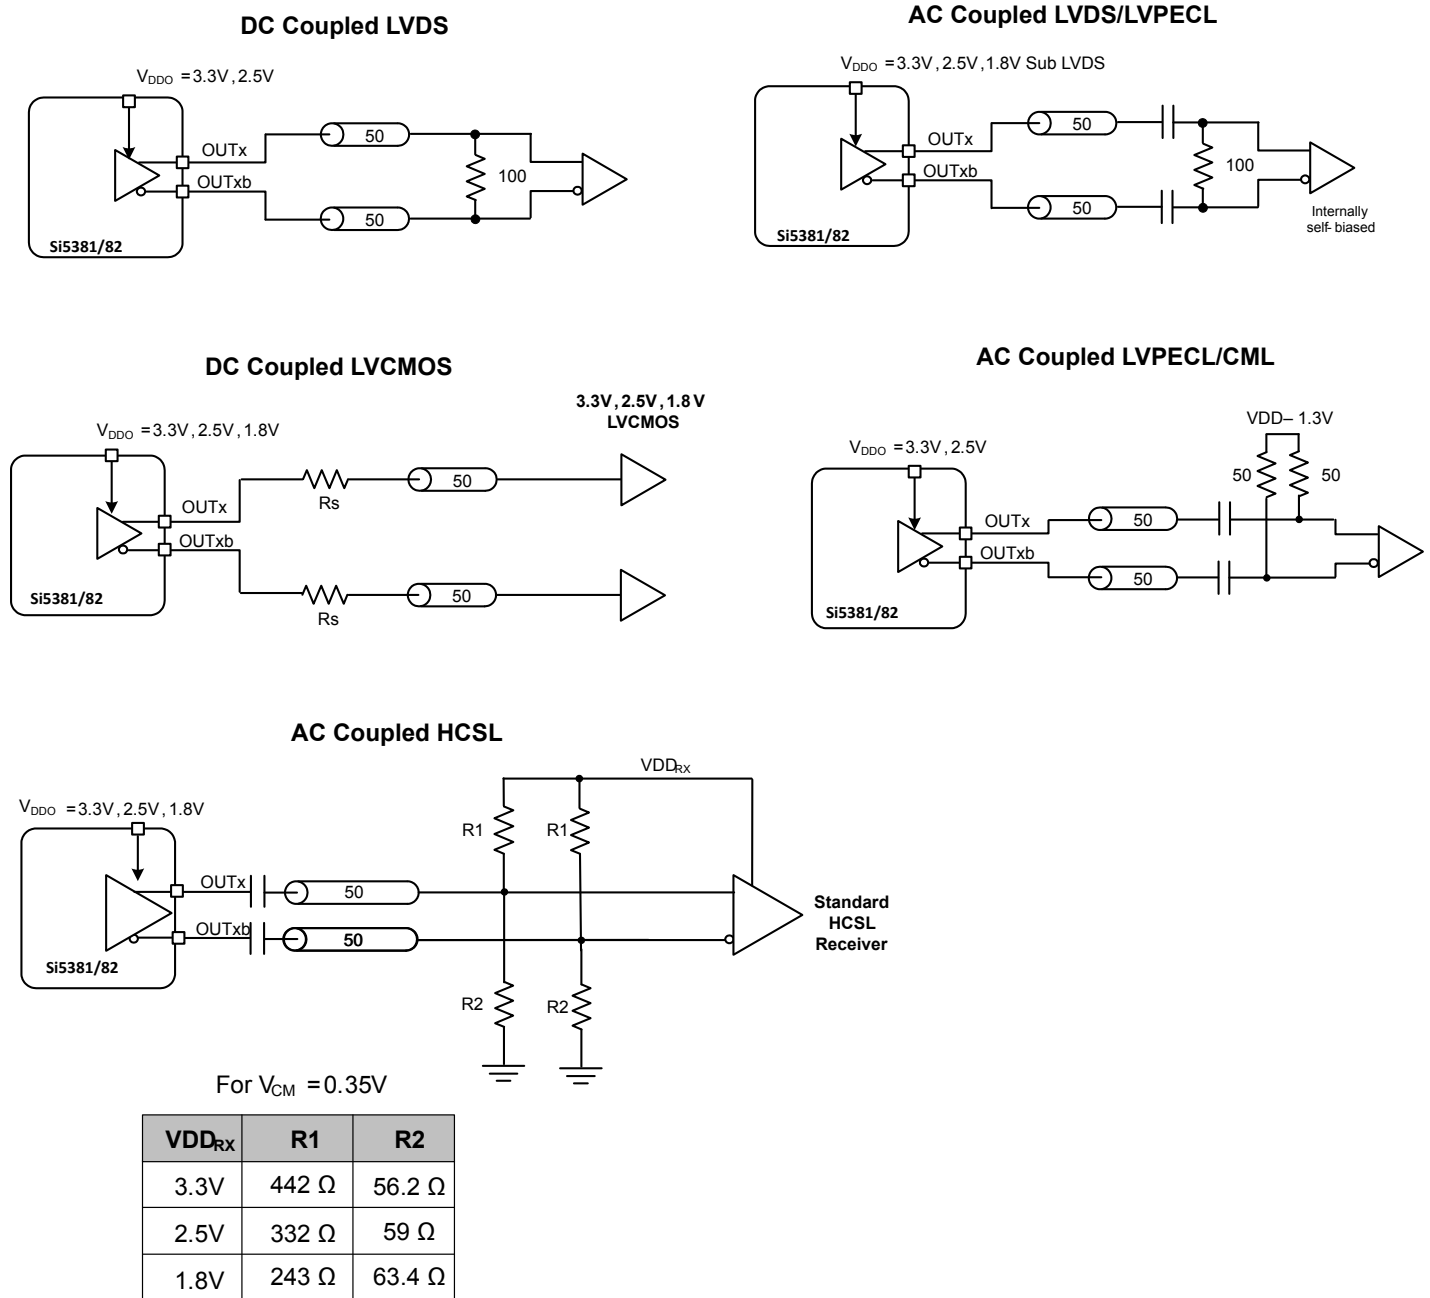

Figure 4.2. Supported Differential Output Terminations
2. Creates HCSL compatible signals, see HCSL receiver biasing network in Figure 4.2 Supported Differential Output Terminations on page 44.